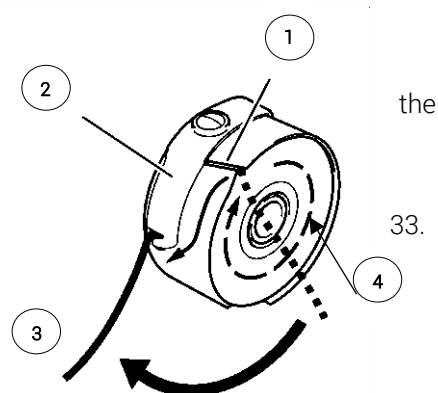

Figure 33
3. Pass the thread through the opening slit. See No. 1 in Figure 33.
4. Pull the bobbin thread under the tension arm and exit the notch at other end. See No. 2 in Figure 33.
5. Turn the bobbin over, and pull on the thread. See No. 3 in Figure 33.
6. Ensure the bobbin rotates in a clockwise direction. See No. 4 in Figure 33.